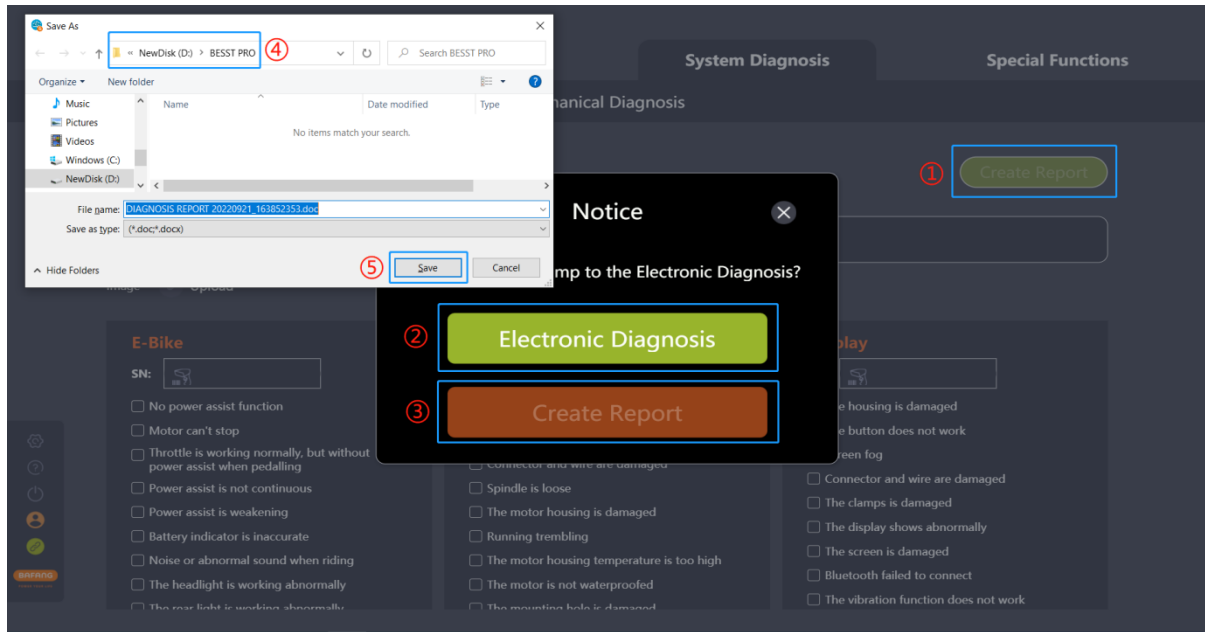

Fig. 6-11 Create report in mechanical diagnosis
- (1) Click on the “Create Report” icon and the software will prompt “Do you want to jump to the Electronic Diagnosis?” (e.g. Fig. 6-11);
- (2) For electronic diagnosis, select “Electronic Diagnosis” to jump to the electronic diagnosis interface;
- (3) If not, click on the “Create Report” icon;
- (4) Select the local save path;
- (5) Click on the “Save” icon to generate a report.